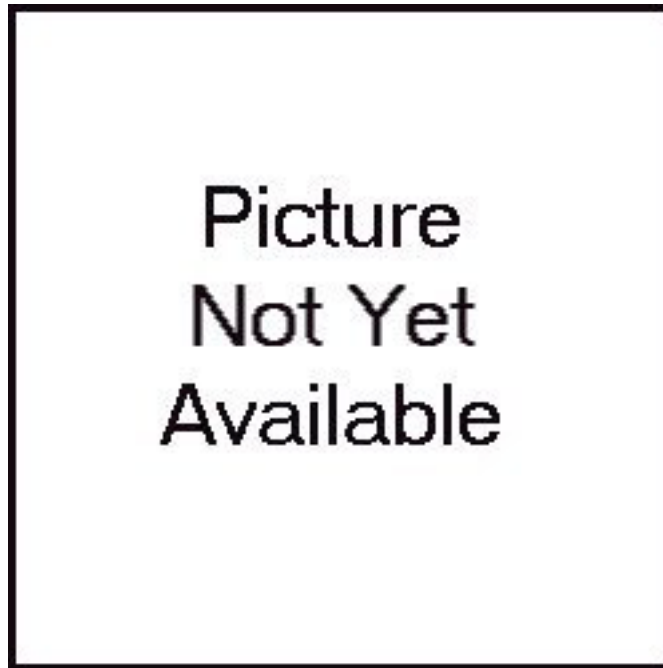

Figure 6 - Rear Roof Panel
2.2 Rear Roof Panels. Remove the T-Tops from the car and loosen the four screws holding each existing rear roof panel (Figure 6). Remove the roof panels and store them in a safe place. The rear roof panels will not be reused.